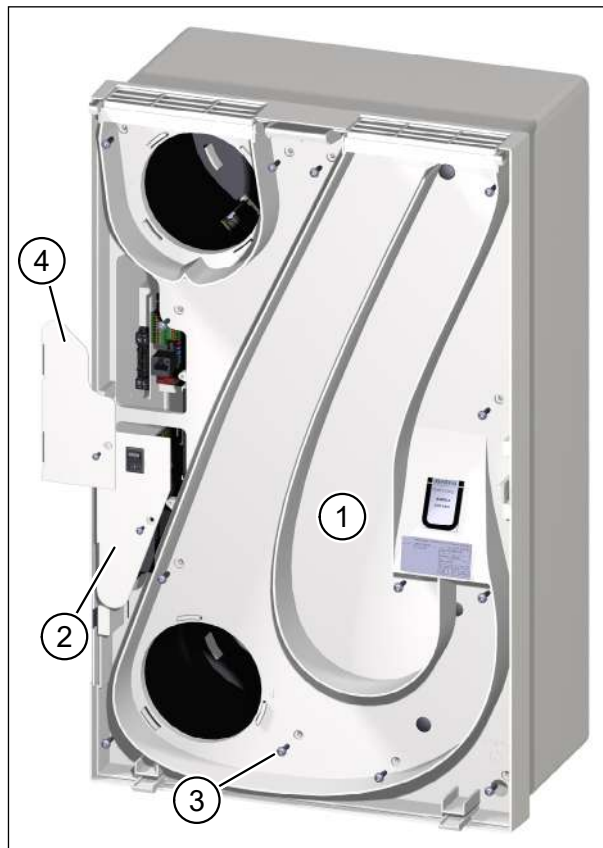

Fig. 26: Insert and secure intermediate plate and electronics compartment covers
- ▶ Attach the intermediate plate (item 1 in Fig. 26) to the ventilation unit.
- ▶ Guide the lower electronics compartment cover (item 2 in Fig. 26) through the opening in the intermediate plate.
- ▶ Use the 13 TX20 Torx screws (item 3 in Fig. 26) to fix the intermediate plate.
- ▶ Use the TX10 Torx screw to fix the lower electronics compartment cover (item 2 in Fig. 26).
- ▶ Use the TX10 Torx screw to fix the upper electronics compartment cover (item 4 in Fig. 26).